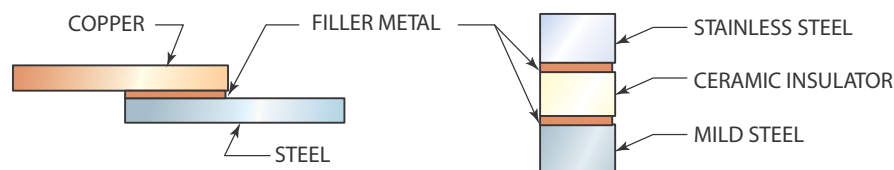

FIGURE 19-2 Dissimilar materials joined. © Cengage Learning 2012
- Dissimilar materials can be joined—It is easy to join dissimilar metals, such as copper to steel, aluminum to brass, and cast iron to stainless steel, Figure 19-2. It is also possible to join nonmetals to each other or nonmetals to metals. Ceramics are easily brazed to each other or to metals.